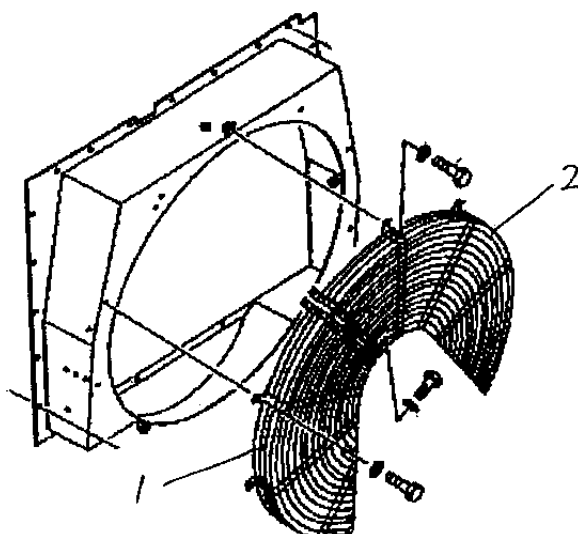
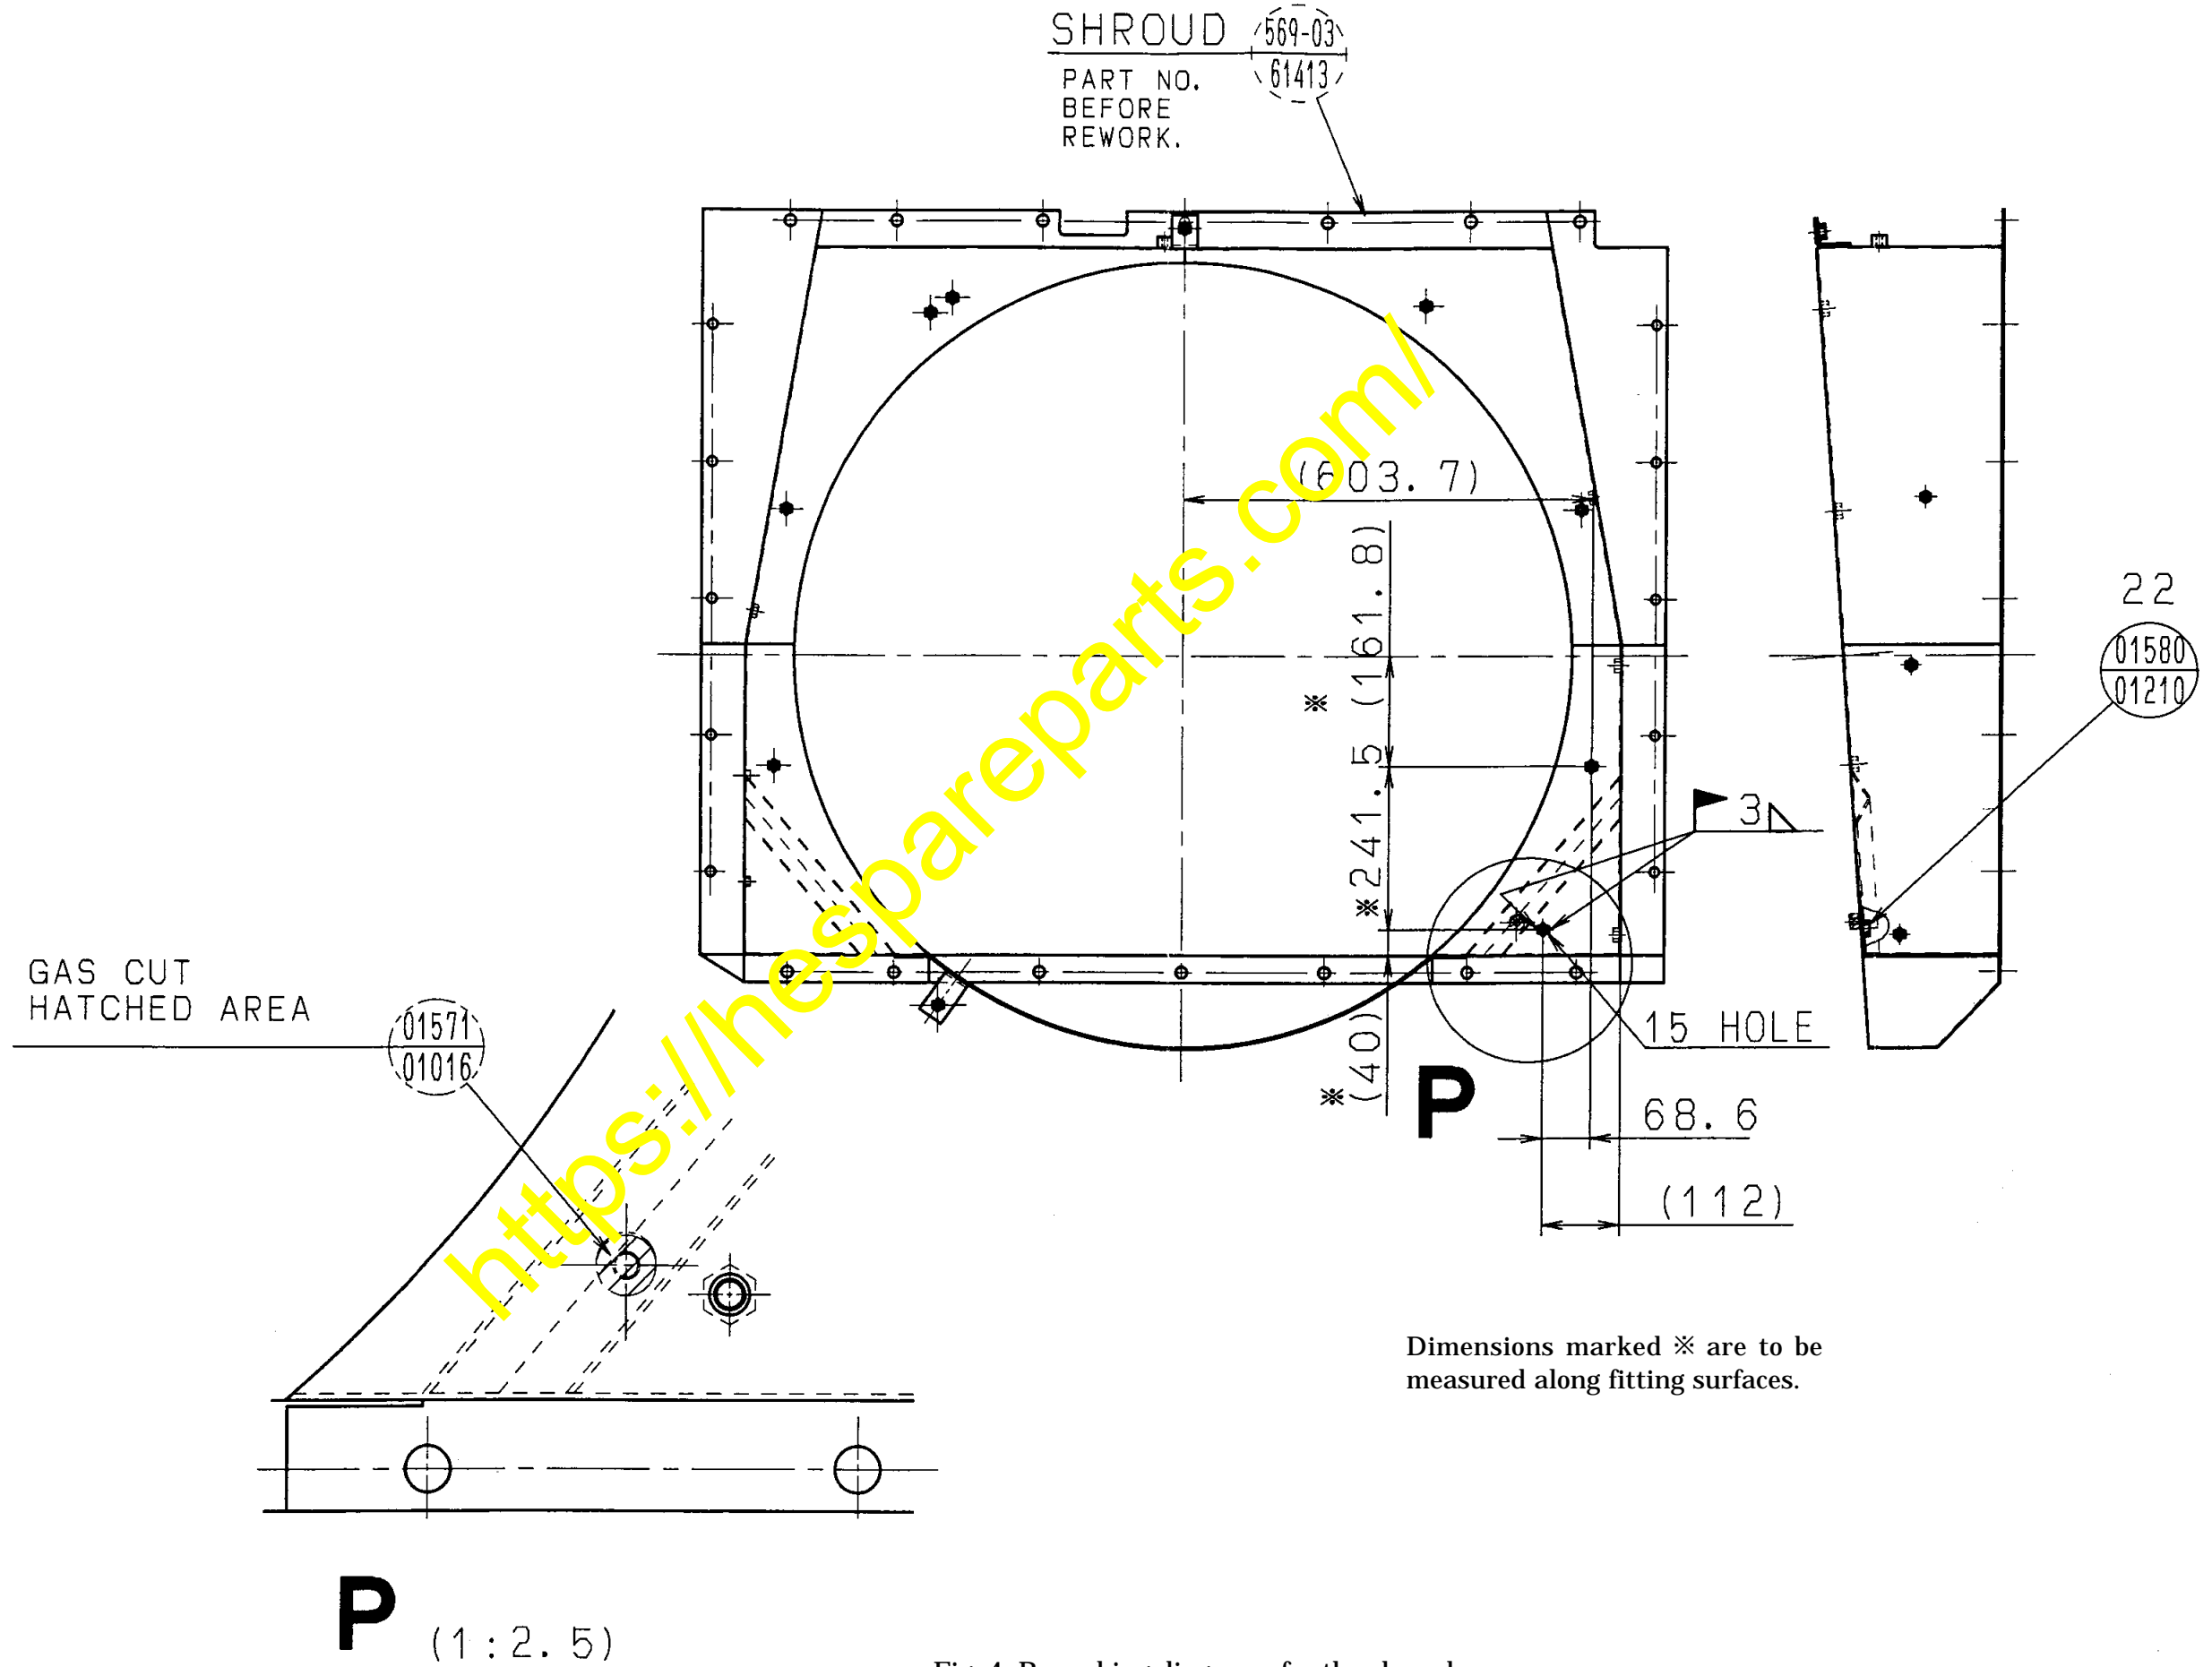

Fig. 1 Removing the fan guard net halves
Fig. 4 Reworking diagrams for the shroud
(1) Remove the fan guard net halves 1 and 2 (Refer to Fig. 1) and rework the shroud according to instructions give in Fig. 4.